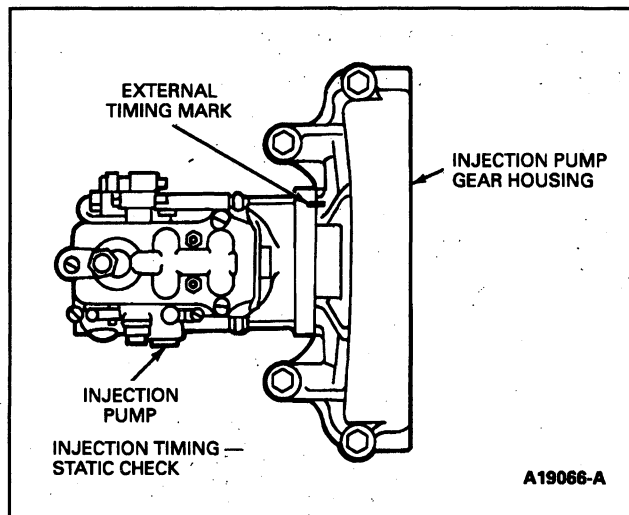

Figure 12: Injection Pump Timing Marks
4. Remove rotating tool and tighten nuts to specification. Visually check timing to verify that timing marks are aligned (Figure 12).